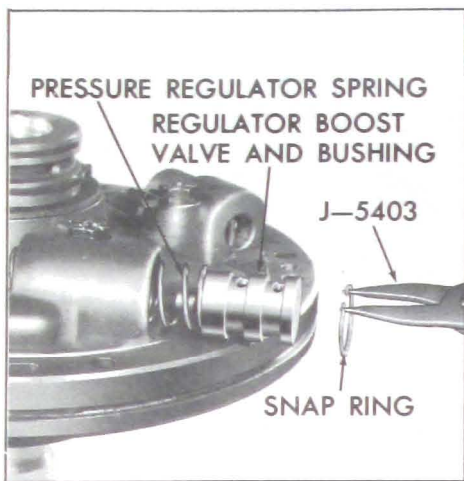

Figure 5-584
3. Compress the regulator boost valve bushing against the pressure regulator spring and remove the snap ring, using J-5403 pliers. See Figure 5-584.